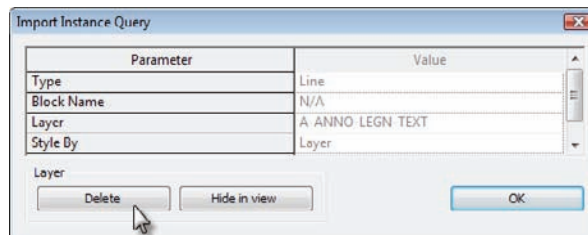

FIGURE 11.57 You can query items in the CAD import. You can also delete items.
5. After you select the line, Revit reports information to you about that line. You're also given the chance to delete the layer. Click Delete, as shown in Figure 11.57.